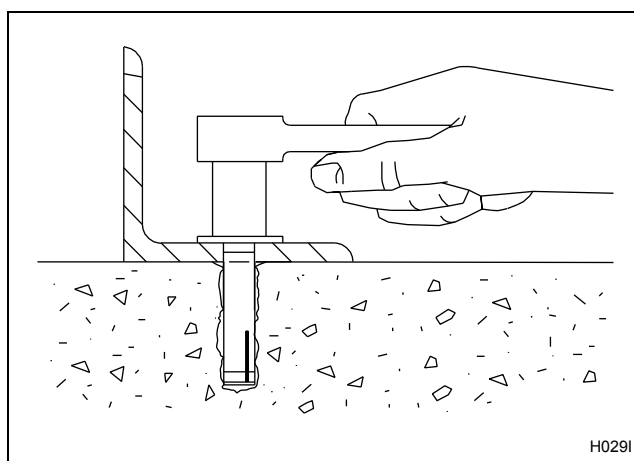

Figure 9
10. Secure the machine to the floor, using the bolts furnished with the anchors. Tighten the locknuts by even increments - one after the other - until all are tightened evenly and the machine is fastened securely to the floor. Refer to *Figure 9*.